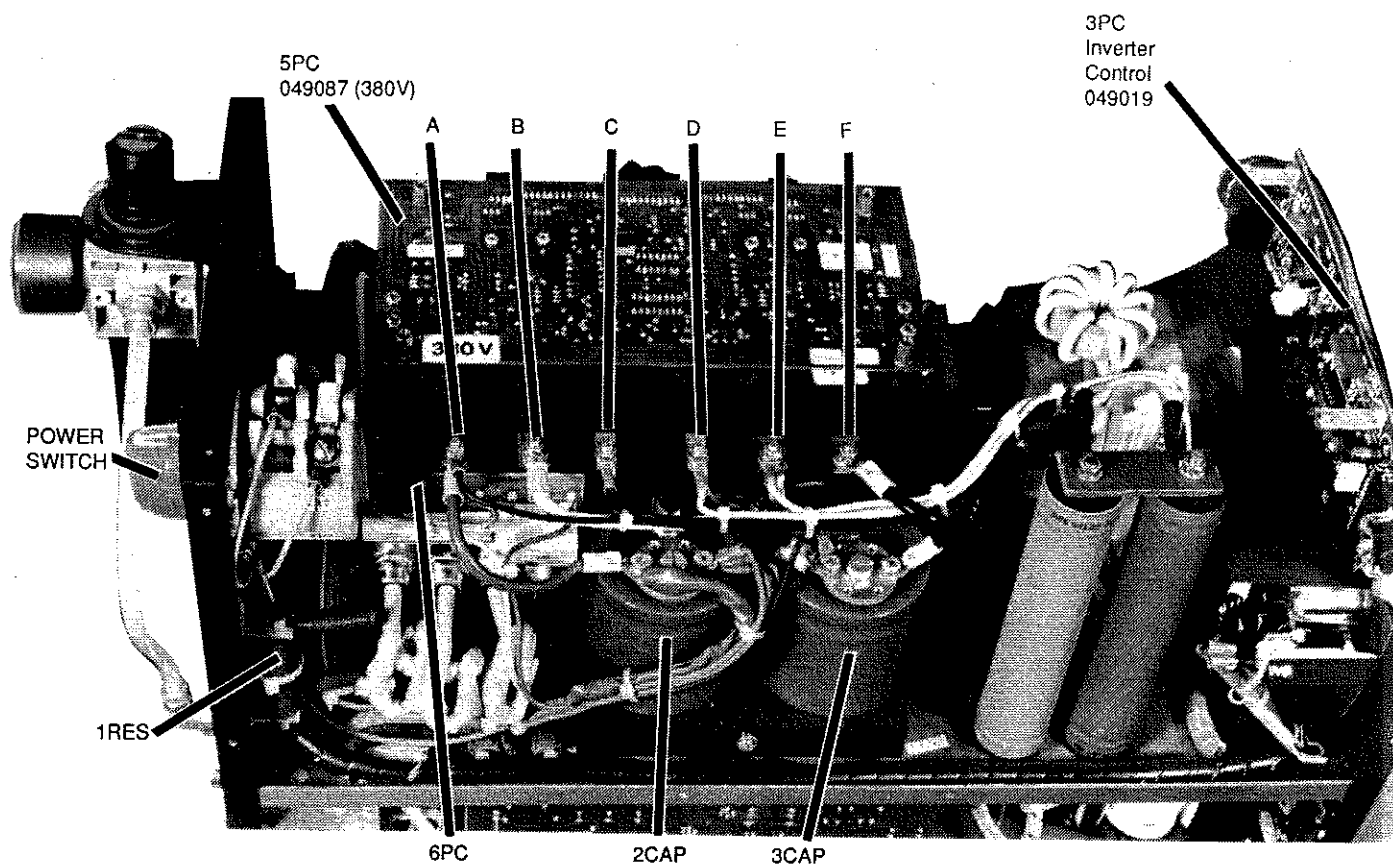

Figure 9
- Figure 9 -- MAX81 5PC Power Wiring